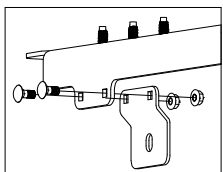

Figure C1
- 1. Assemble bed protectors.** Locate the bed protector extension brackets and the passenger and driver side bed protectors. Attach an extension bracket to each bed protector with two 5/16" x 3/4" carriage bolts and flange nuts, as shown in Figure C1. Tighten each nut.